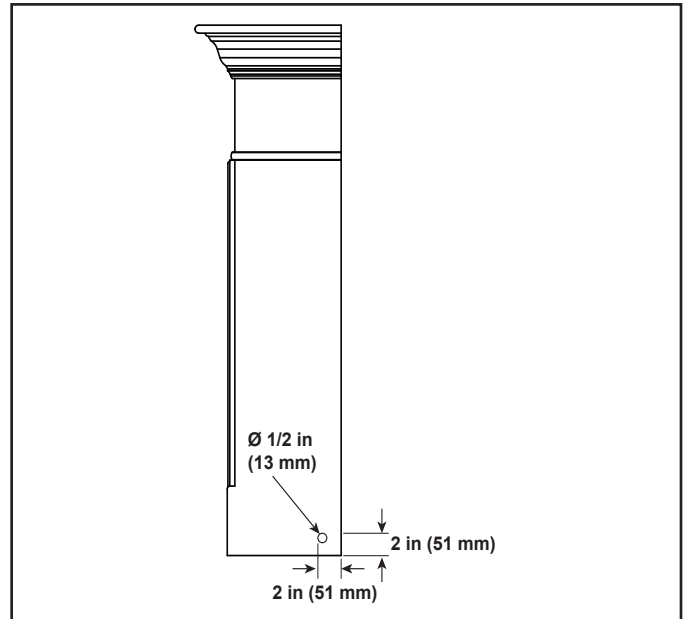

Figure 1
- Drill 1/2" hole within bottom two inches of the side mantel leg. See Figure 1.